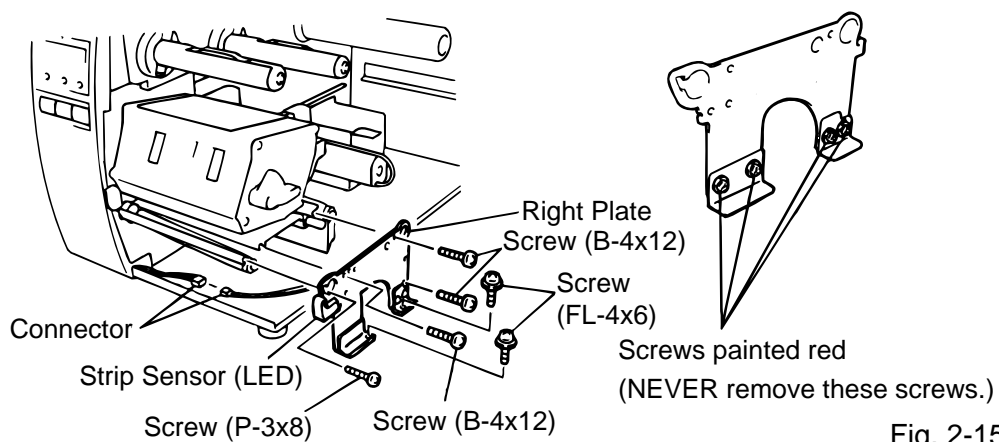

Fig. 2-15
1. NEVER remove the four screws painted red fixing the right plate and reinforcing plate. (See Fig. 2-15)
- 1) Disconnect the connector for the strip sensor (LED) to remove right plate. (See Fig. 2-15.)